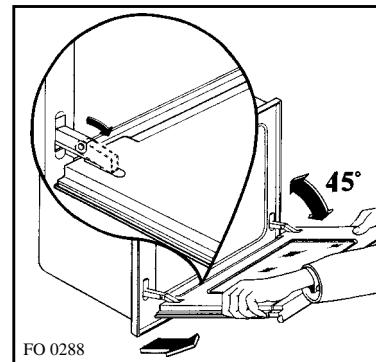

Fig. 5
- b) find the hinges linking the door to the oven (fig 5);
- c) unlock and turn the small levers located on the two hinges (fig. 5);
- e) gently pull the oven door off its site (fig. 5);